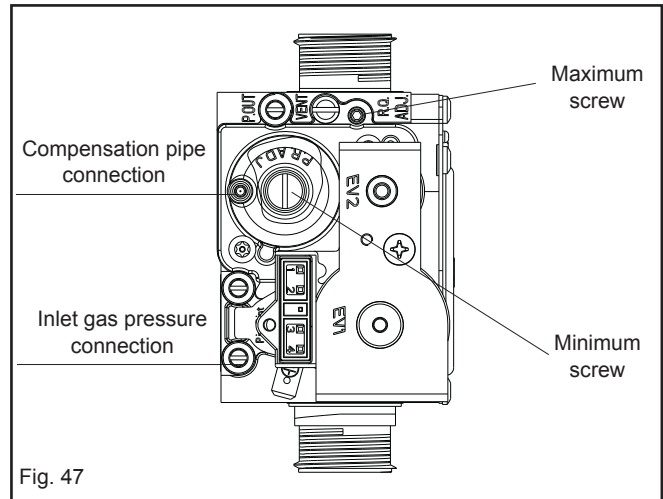

Fig. 47
- using a 2.5mm Allen key, very slowly turn the maximum adjustment screw (see fig. 47) – clockwise to decrease, counter clockwise to increase – until the correct value is displayed on the CO2 analyser (allow time for the analyser to stabilise).
- locate the minimum adjustment screw (fig. 47), using a suitable screwdriver remove the protection plug
- using a 4mm Allen key, very slowly turn the minimum adjustment screw (see fig. 47) - clockwise to increase, counter clockwise to decrease - until the correct value is displayed on the CO2 analyser (allow time for the analyser to stabilise).